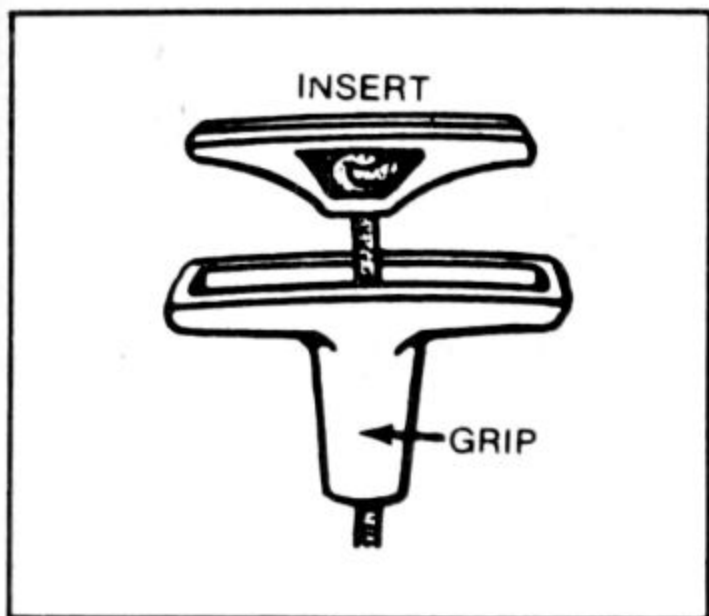

Fig. 4-23. Briggs & Stratton handle insert must be pried out of grip for rope installation.
7. Rope can be disengaged from handle by prying the handle center section free and cutting the knot (Fig. 4-23).